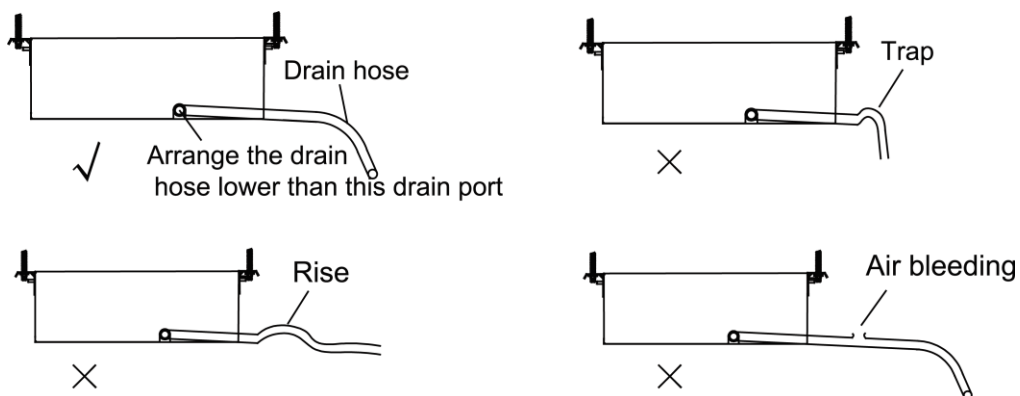

Figure 3-1-9
- (3) When the hose is long, install supporters. (Figure 3-1-9)
- (4) Always use the drain hose which has been insulated properly.